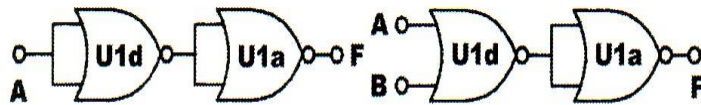

Fig. 2-2 (c) NOR gate use as Buffer and OR gate
7. Use U1a and U1c to construct an OR gate shown on the right side of Fig. 2-2 (c). Insert connection clips between F1 ~A1 and A1~B1. Connect inputs A to SW0, B to SW1; and output F3 to L1. Follow the input sequences shown below and record the output states in Table 2-1.